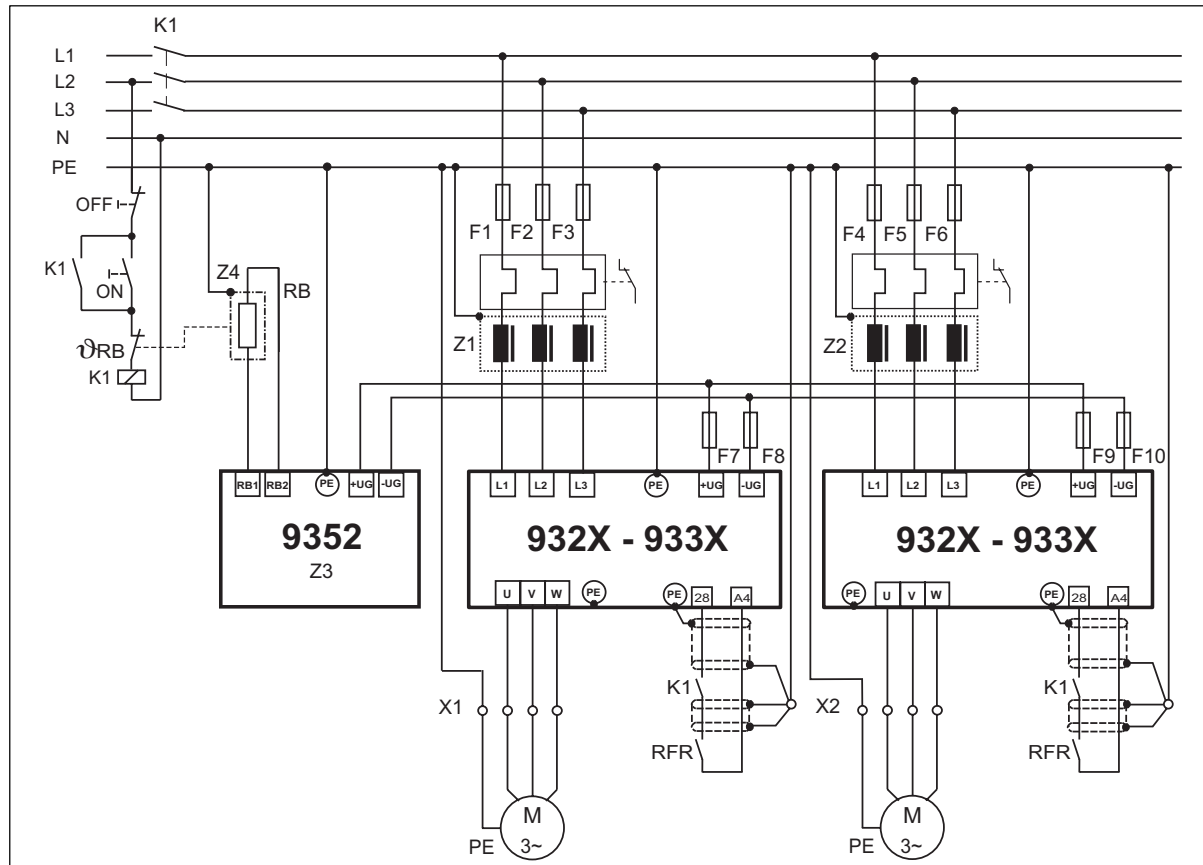

Fig. 4-9 Decentralized supply with DC-bus connection of several drives
- Fig. 4-9, "Decentralized supply for DC-bus connection of several drives". (4-18)